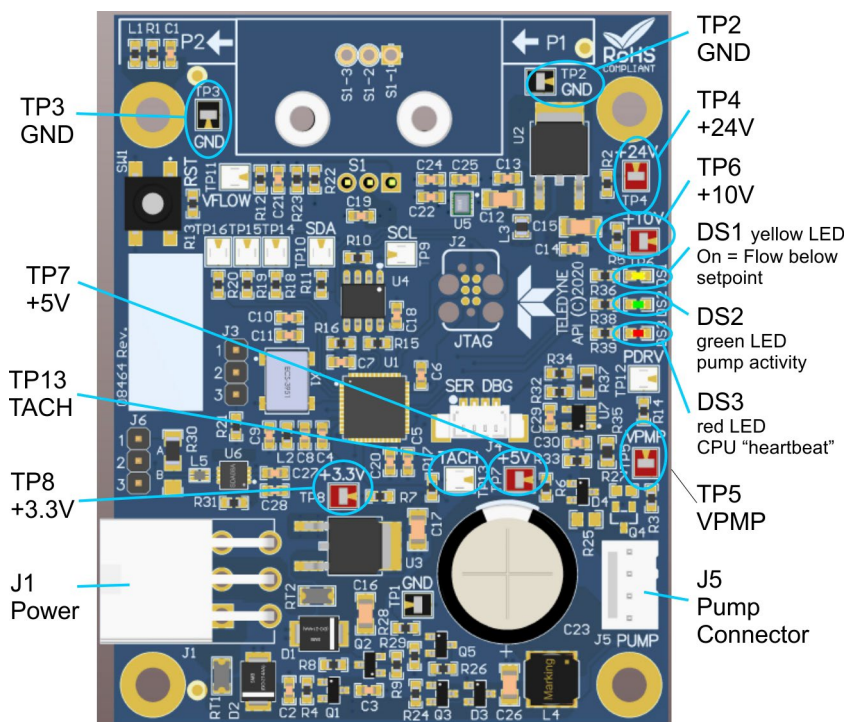
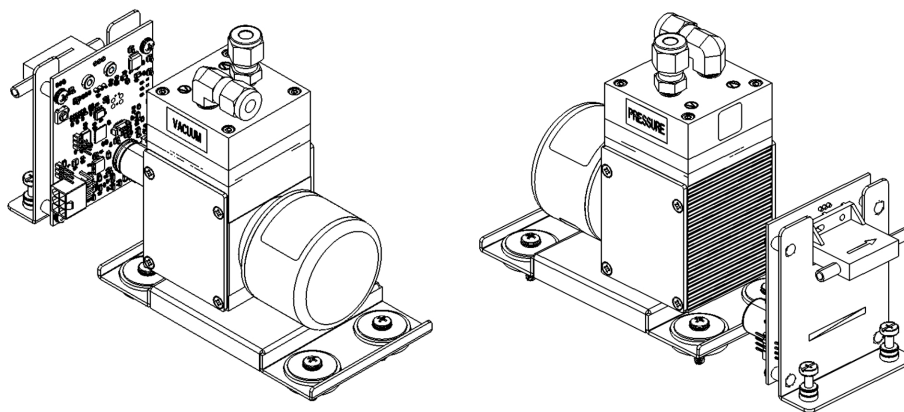
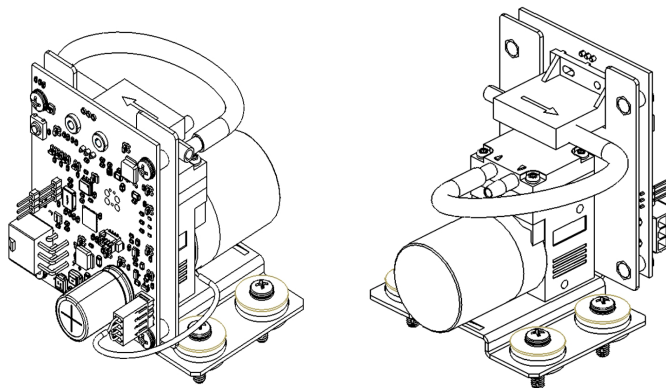

Figure 5-8. DC Pump Control Board LEDs
Figure 5-9. HD non-PID Controlled Pump
Figure 5-10. STD PID Controlled Pump
The unit displays a SAMPLE FLOW Alert or the SAMPLE FLOW Dashboard function reports a zero or very low flow rate. The instrument has a controlled pump that is either HD non-PID (Figure 5-9) or STD PID (Figure 5-10), both of which are controlled by the same board (see Figure 5-8 for LED descriptions and Figure 5-13 for connectors).
1. Check that the communication/activity LEDs on the pump board (Figure 5-8) are illuminated and/or blinking. If not, check power to board via its test points.
2. If pump board LEDs are active and pump is not operating, check the “Pump Control Mode” VAR and make sure its setting is either PID (for the PID controlled pump, Figure 5-10) or Constant (for the larger orifice flow controlled pump, Figure 5-9).